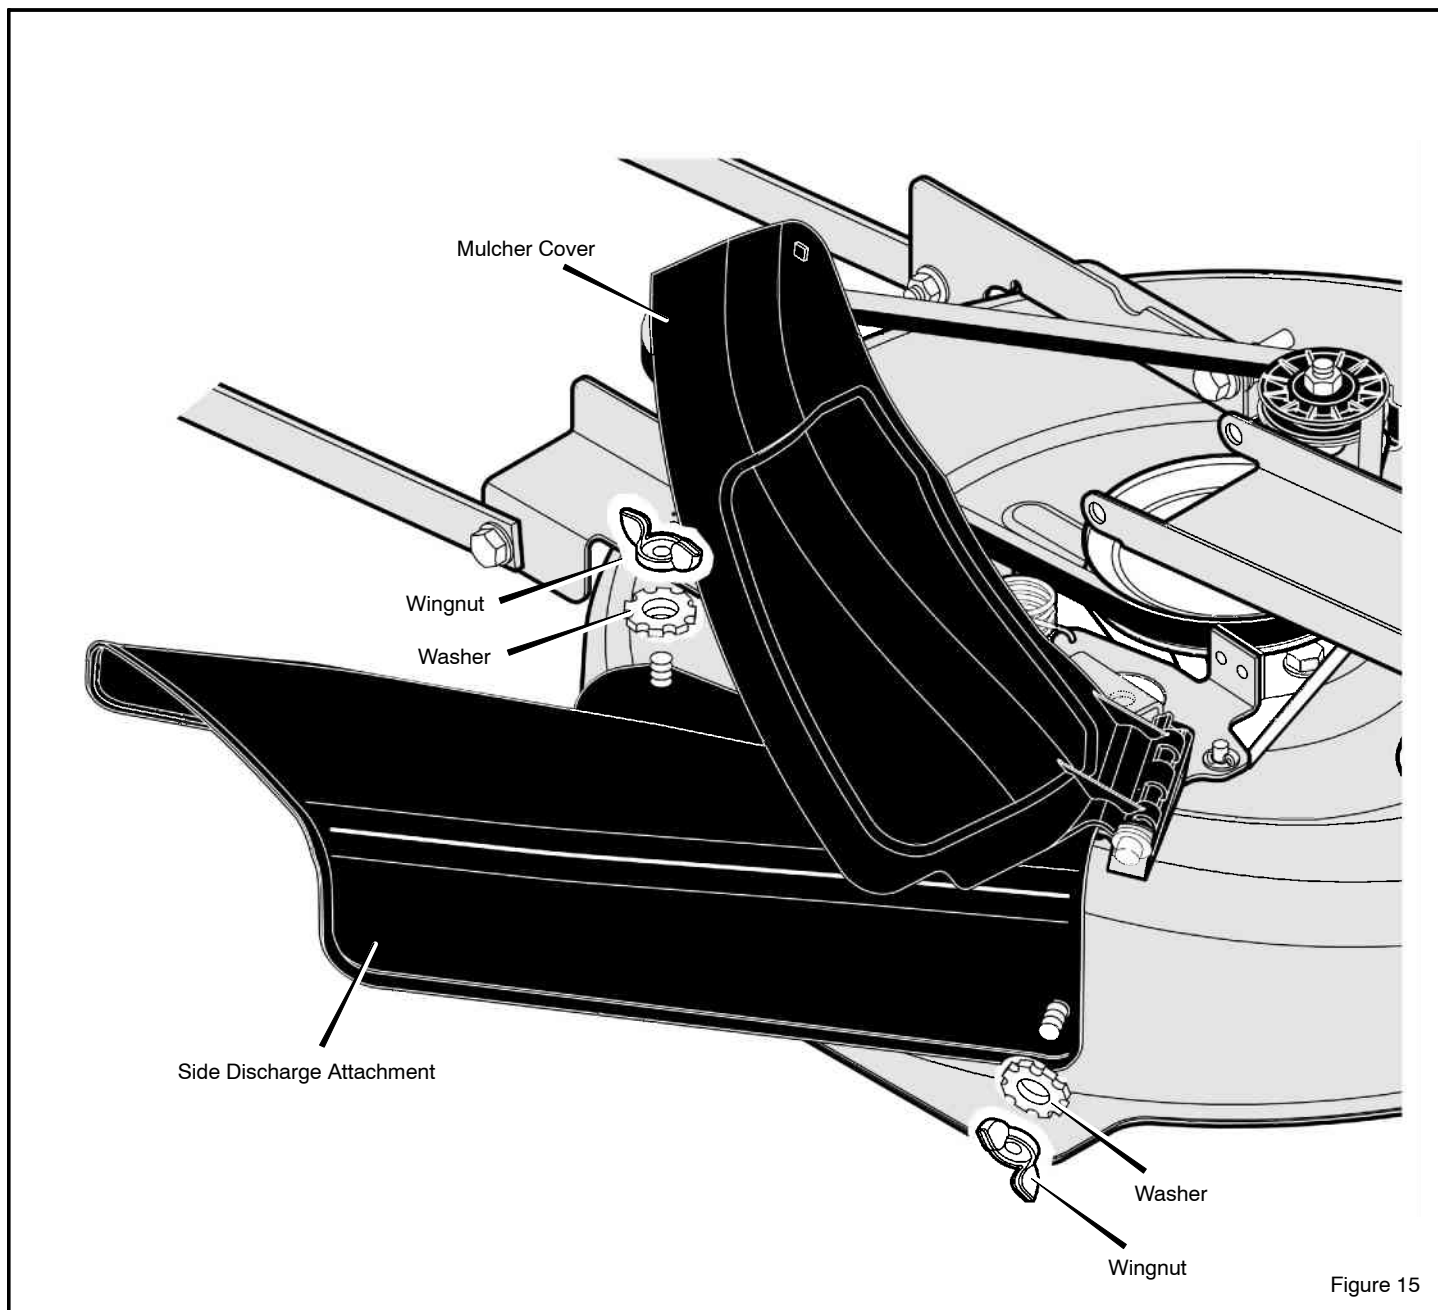

Figure 15
1. Remove the fasteners that secure the **mulcher cover** (see Figure 15).